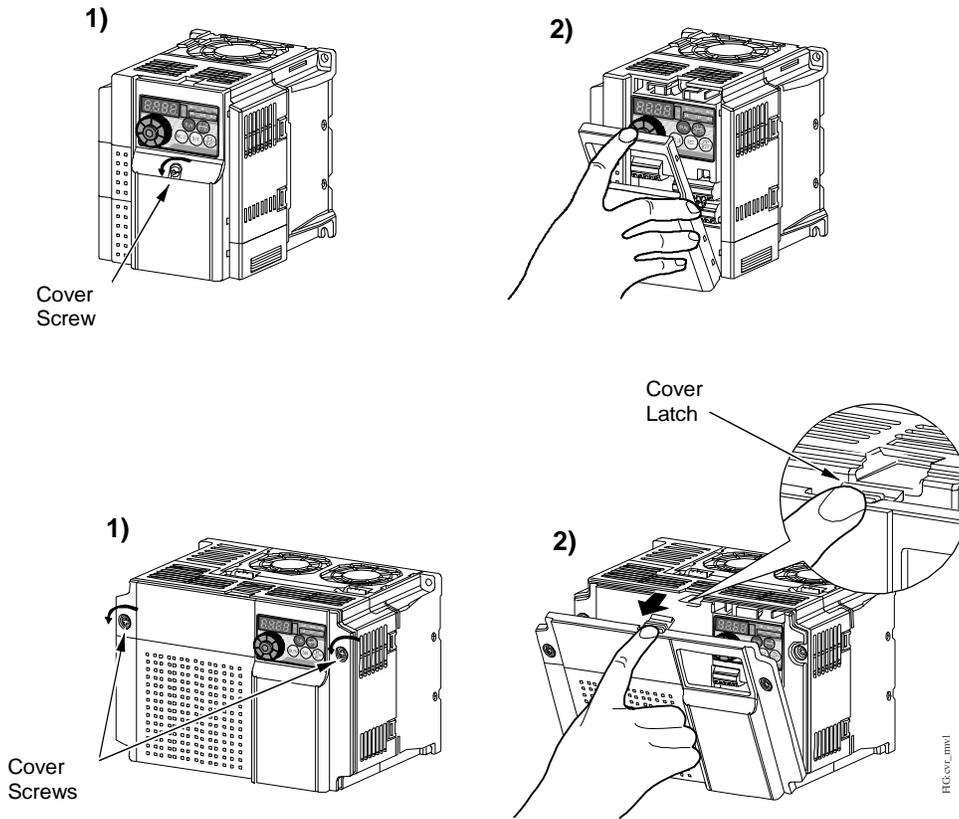

Figure 13: Loosen the Cover Screws and Remove the Front Cover
1. Loosen the screws on the front cover and remove the cover to access the low-voltage wiring (Figure 13).
1. Loosen the screws on the front cover and remove the cover to access the low-voltage wiring (Figure 13 on page 24).